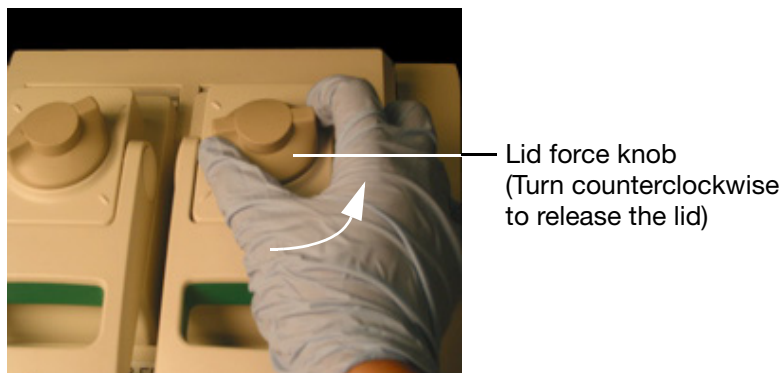

Figure 9. Turn the lid force knob counterclockwise to release the inner lid.
1. Turn the lid force knob counterclockwise to release the inner lid (Figure 9).